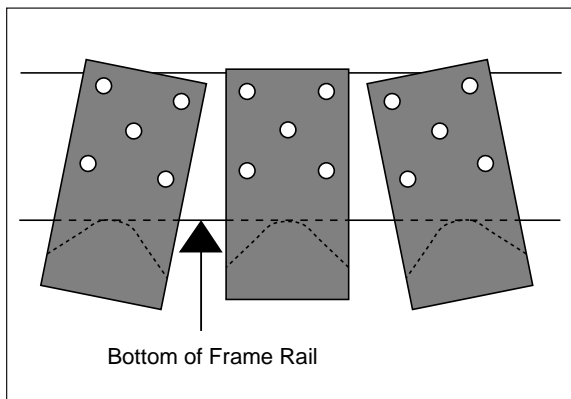
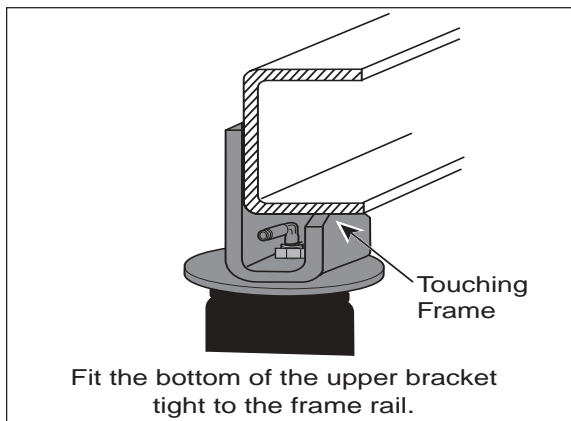

Figure 4
Figure 5
2. The upper bracket must be parallel and perpendicular to the lower bracket. The upper bracket is designed so that it can be "tilted" for the proper angle (Figure 4). The bottom of the upper bracket must fit tight to the bottom of the frame rail (Figure 5). It is necessary to use at least three of the five pre-drilled mounting holes in the upper bracket. Any combination of three is permissible. Using the bracket as a template, center punch and drill three $\frac{5}{16}$ " holes. The holes must be no larger than $\frac{5}{16}$ ". Attach the upper bracket using the Self-Tapping Frame Bolts. Tighten securely to 15 ft.lbs. (Figure 1). **DO NOT OVERTIGHTEN.**